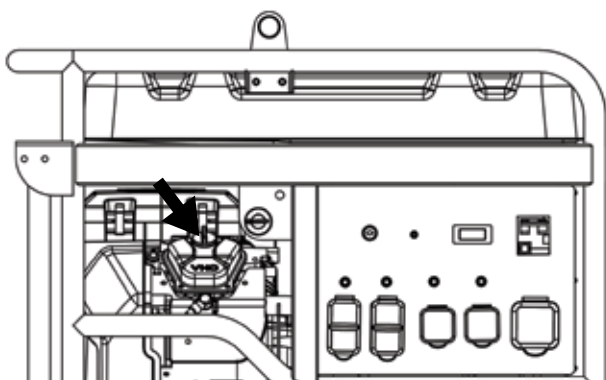

Figure 16 - Oil Fill Plug
5. Remove oil fill plug/dipstick (see Figure 16 below).